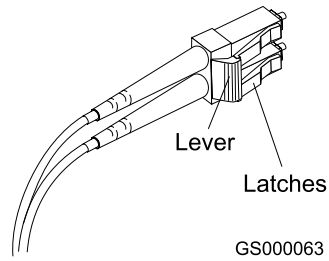
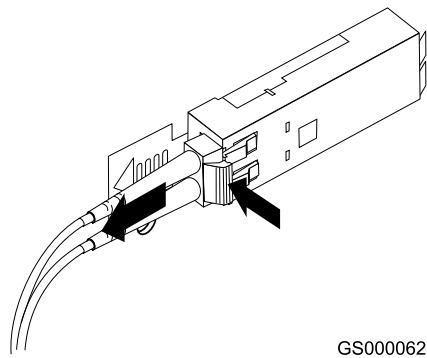

Figure 10. LC-LC Fibre Channel Cable lever and latches
Figure 11. Removing the LC-LC Fibre Channel cable
1. On the end of the LC-LC cable that connects into the SFP module or host bus adapter, press down and hold the lever to release the latches, as shown in Figure 10 on page 8. Carefully pull on the connector to remove the cable from the SFP module, (ensure that the levers are in the released position when you remove the cable) as shown in Figure 11 on page 8. If you use the SFP module with the pull tab, make sure you do not grasp the plastic tab when you remove the cable.